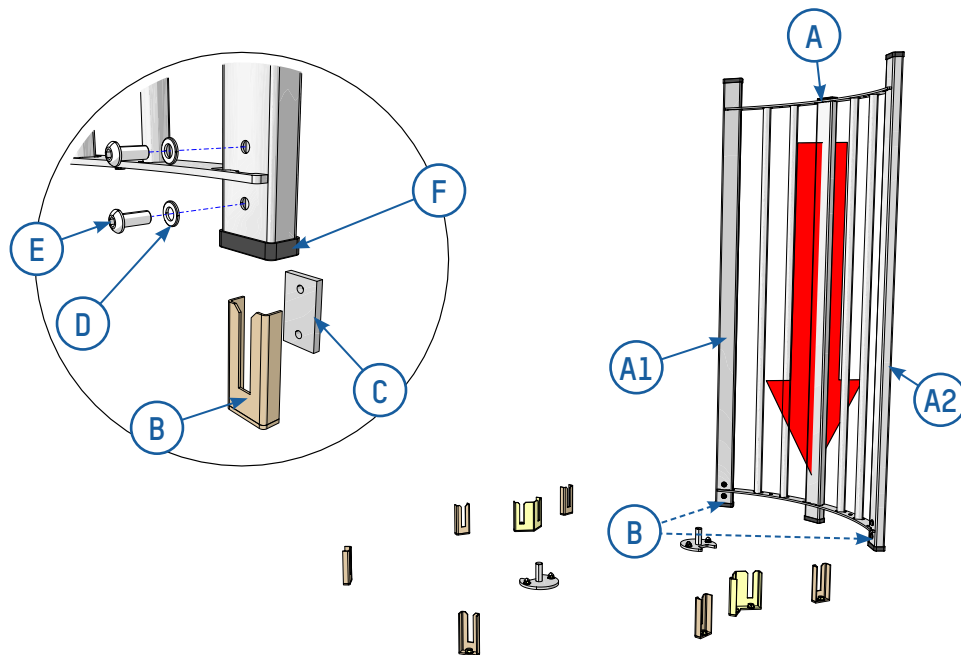
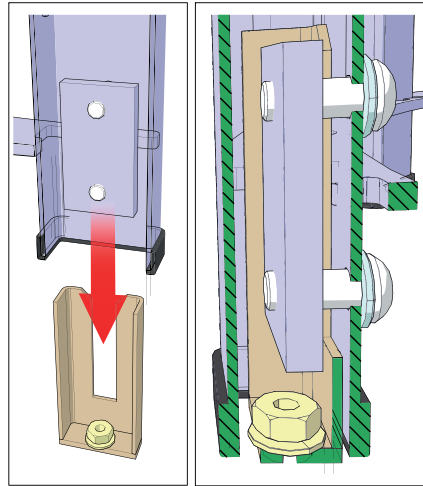

Fig. 15
Fig. 16
To avoid having to start all over again, make sure upright protectors (F) are present at the points where fixed panels come into contact with the ground. [⇒ Fig. 15]
Having installed the mounting brackets (C) in each of the two external uprights (A1 & A2) using screws (E) and washers (D) [⇒ Fig. 16], place the first fixed panel (A) on the corresponding fixing rails (B). [⇒ Fig. 15]